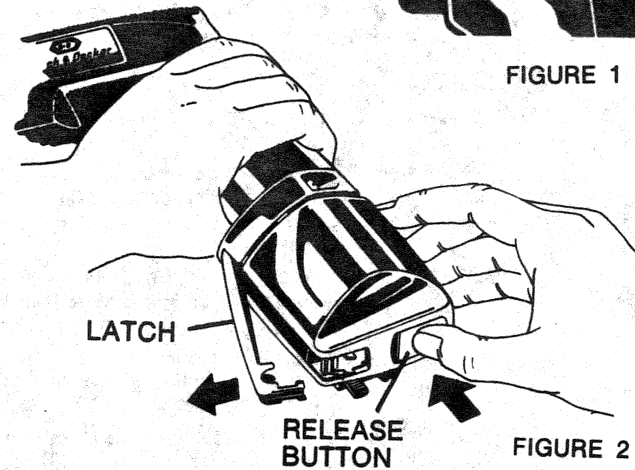
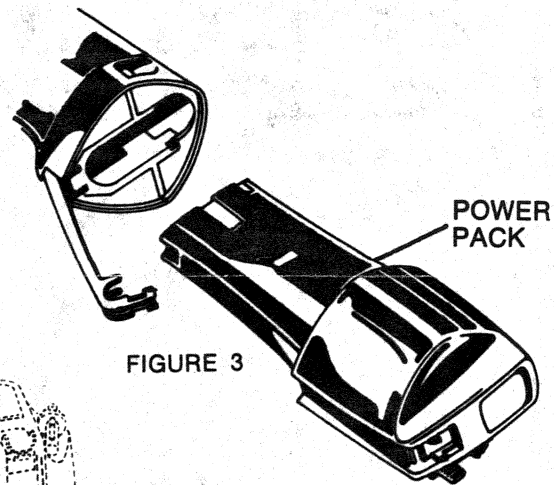

FIGURE 2
FIGURE 3
- Remove Power Pack from Tool Handle by first pressing Release Button (Figure 2). The Latch will spring open and allow Power Pack to be withdrawn from handle (Figure 3).